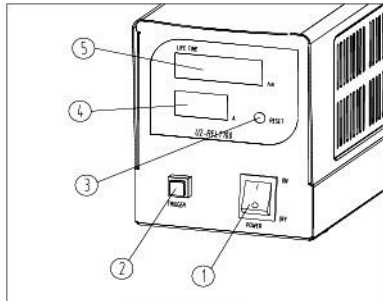

Fig. 18
Illumination (Fig. 18)
After connecting with the main power supply, please set the switch ① on fluorescence power supply at “—” (ON), then touch the trigger button (TRIGGER) ②, the mercury lamp will light. It takes 5 minutes to warm up mercury lamp. (Fig. 18)